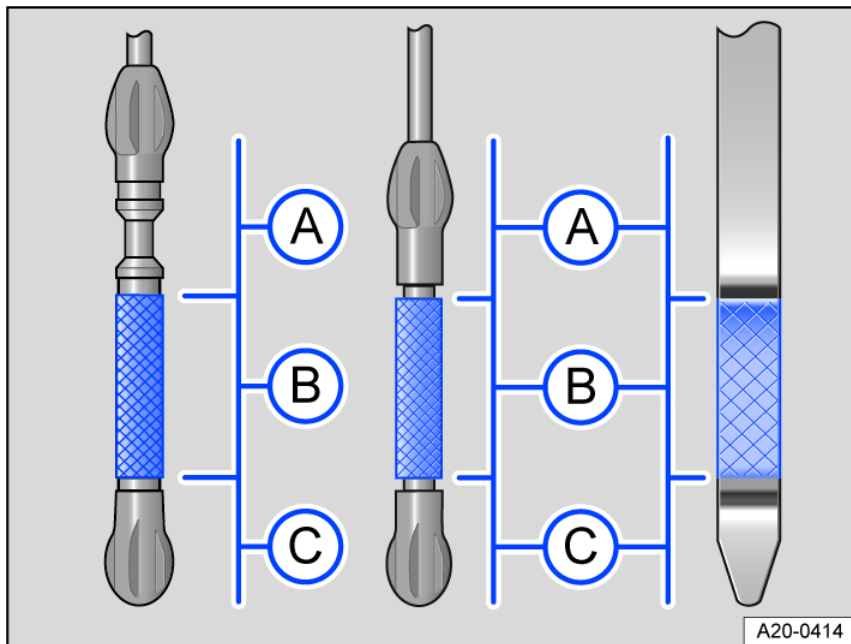

Fig. 173 Engine oil level markings on the oil dipstick (versions).
3. Remove the dipstick again and read the oil level on the dipstick as described below *fig. 173*:
When you are done adding oil, the oil level should be in the center of area *fig. 173* **B**. The engine oil level must not be in the area *fig. 173* **A**.
5. If you accidentally add too much engine oil and the engine oil level is in area *fig. 173* , do not start the engine ⇒ . Contact an authorized Volkswagen dealer or authorized Volkswagen Service Facility for assistance.